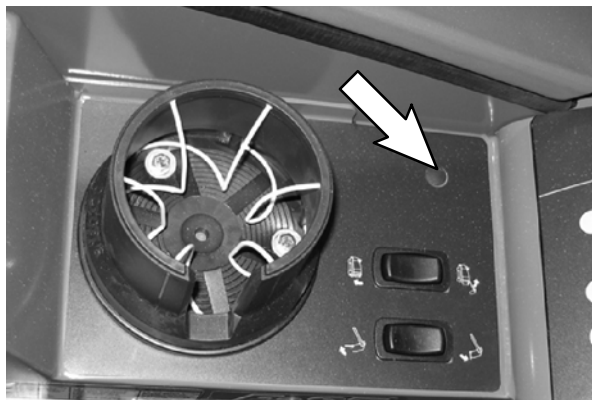

FIG. 2
3. Remove the plastic plug from the control panel located next to the operators seat. Discard the plastic plug. (Fig. 2)